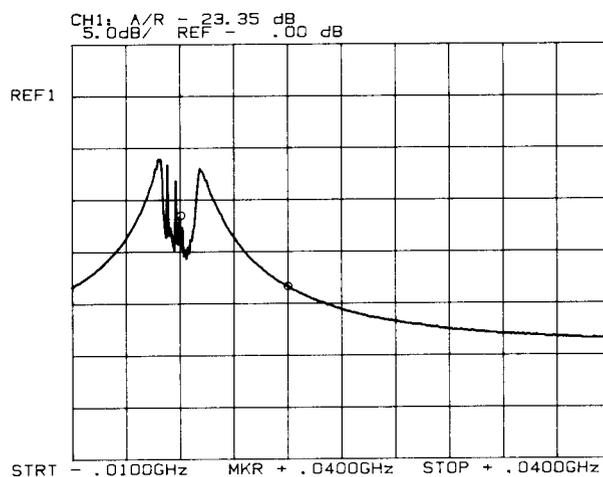

Figure 4-5. Reading Marker Value
7. Connect the DUT to the **TEST PORT**, and press **[SCALE] [5] [DB]** on the HP 8756A. The CRT display should be similar to Figure 4-5.
8. Select **M2**, then **M3**, and read the return loss from the marker value given in the upper left corner of the CRT (see Figure 4-5). Record these values on the test record card.